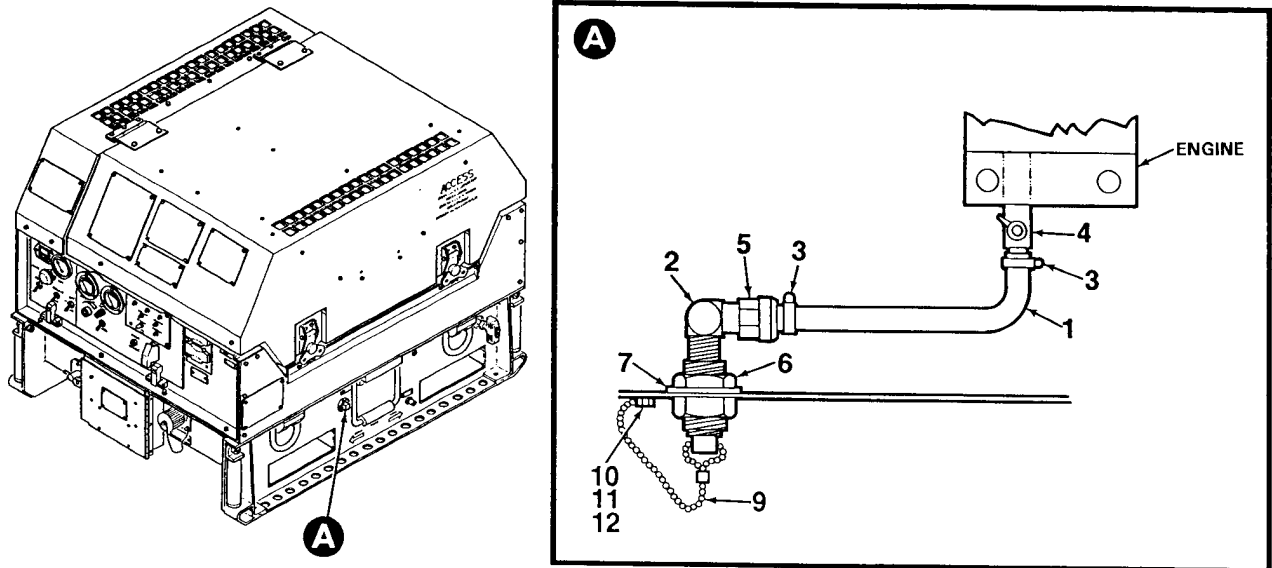

Figure 4-27. Engine Oil Drain Assembly
1. Confirm that drain valve (4, Figure 4-27) is closed (valve handle perpendicular to valve).
2. Disconnect hose (1) from drain valve (4) and adapter (5) loosening hose clamps (3). Remove adapter (5) from elbow (2).
1. Install elbow (2, Figure 4-27) into skid base and secure using nut (6) and star washer (7). Install plug (8) and secure chain (9) to skid base using screw (10), washers (11), and locknut (12).
2. Install adapter (5) onto elbow (2).
3. Connect hose (1) to drain valve (4) and adapter (5) and tighten hose clamps (3).
4. Close drain valve (4) by turning handle perpendicular to valve.